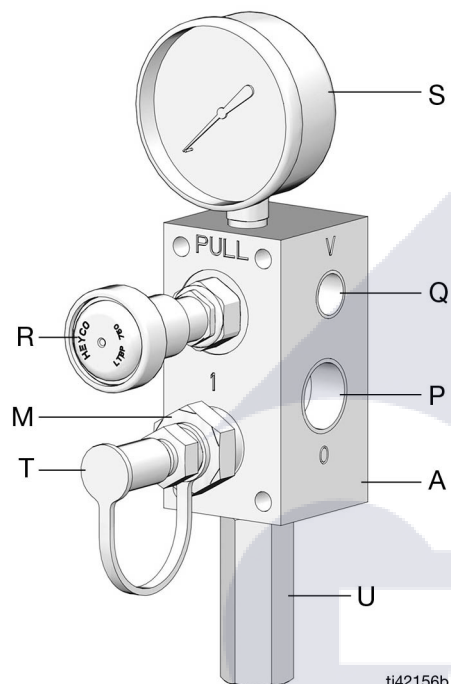

FIG. 1
The reference letters used in the following instructions refer to the Typical Installation diagram provided on page 3 and the Component Identification illustration (FIG. 1).
2. Orient the Fill Valve (A) as shown in FIG. 1. When the Fill Valve is correctly oriented the Pressure Gauge (S) will be located on the top of the Fill Valve block and the Pressure Relief Valve (U) will be located on the bottom of the block.
To reduce the risk of serious injury from skin injection, the Fill Valve (A) must be installed with the pressure gauge (S) located on the top of the Fill Valve and the pressure relief valve (U) pointing down as shown in FIG. 1.
4. Secure Fill Valve (A) to installation surface using 4 1/4 inch bolts.
5. Select a convenient location close to the valve to adhere the Operating Instructions label (N) (included with your valve).
6. Connect Supply Hose (K) between the Auto-Fill Shut Off Valve (C) and Fill Valve Outlet (P) port marked with an "O".
7. Connect a Drain Hose (L) between the Fill Valve Vent Outlet (Q) port marked with a "V" and the Reservoir Port (E/F).